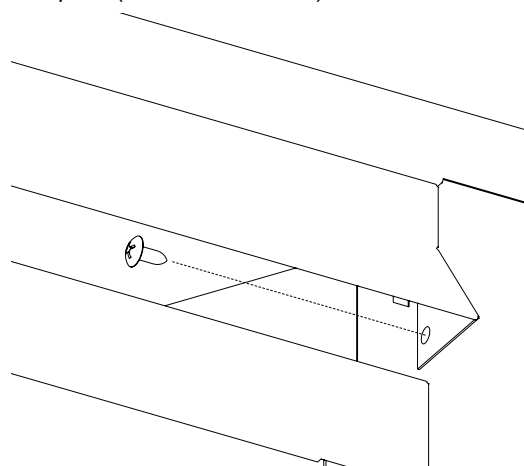

Figure 50
2. Place canopy over open area above glass as shown in **Figure 50**.